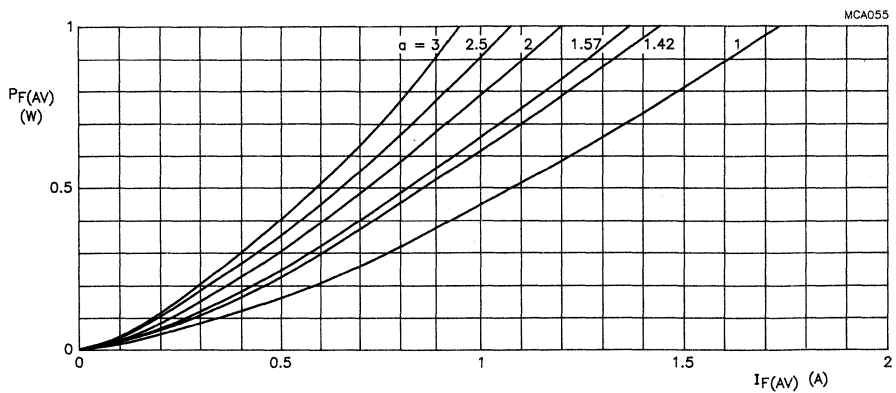

Fig.4 1N5817. Maximum values steady state forward power dissipation as a function of the average forward current; $a = I_{F(RMS)}/I_{F(AV)}$.
6. Determine the $I_{F(AV)}$ rating from Figs 4, 5 or 6.